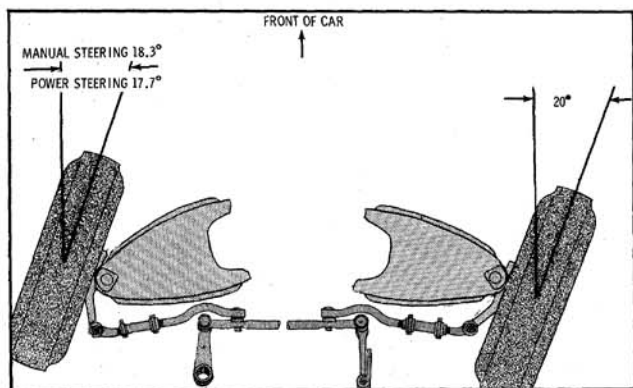

Fig. 9-34 Front Wheel Toe-Out
4. TOE-OUT (STEERING GEOMETRY) (Fig. 9-34)
#### **TOE-OUT (STEERING GEOMETRY)** (Fig. 9-34)